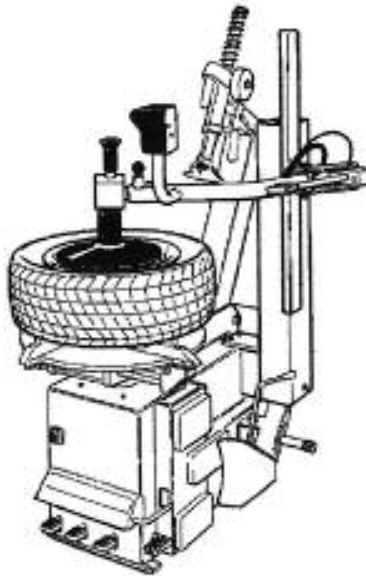

Figure 10
1. The insertion of the jaw between the bead of the tire and wheel flange can be difficult. In order to push the wheel down to create the distance required, expand the table jaws to the fully open position. With the jaws pinned in the proper position for the wheel diameter, place the wheel and tire on the table. Now using the large bead roller wheel, position the device as shown in Figure 10. Press down on the air toggle lever in the control panel until the roller is down onto the wheel and then simultaneously close the table jaws.